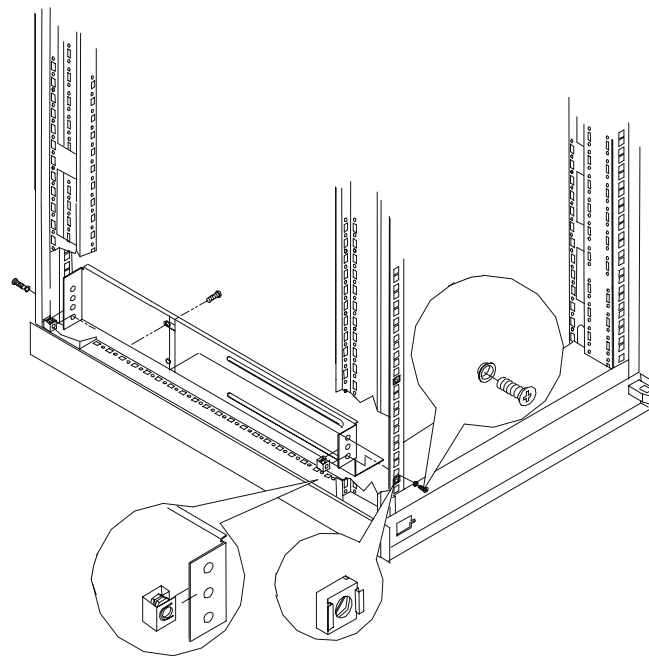

Figure 5-1. Installing Rack Hardware
- Installation of cage-nuts at the rail locations used to secure the front bezel of a unit to the rack. Figure 5-1 shows a typical installation of the cage-nuts.